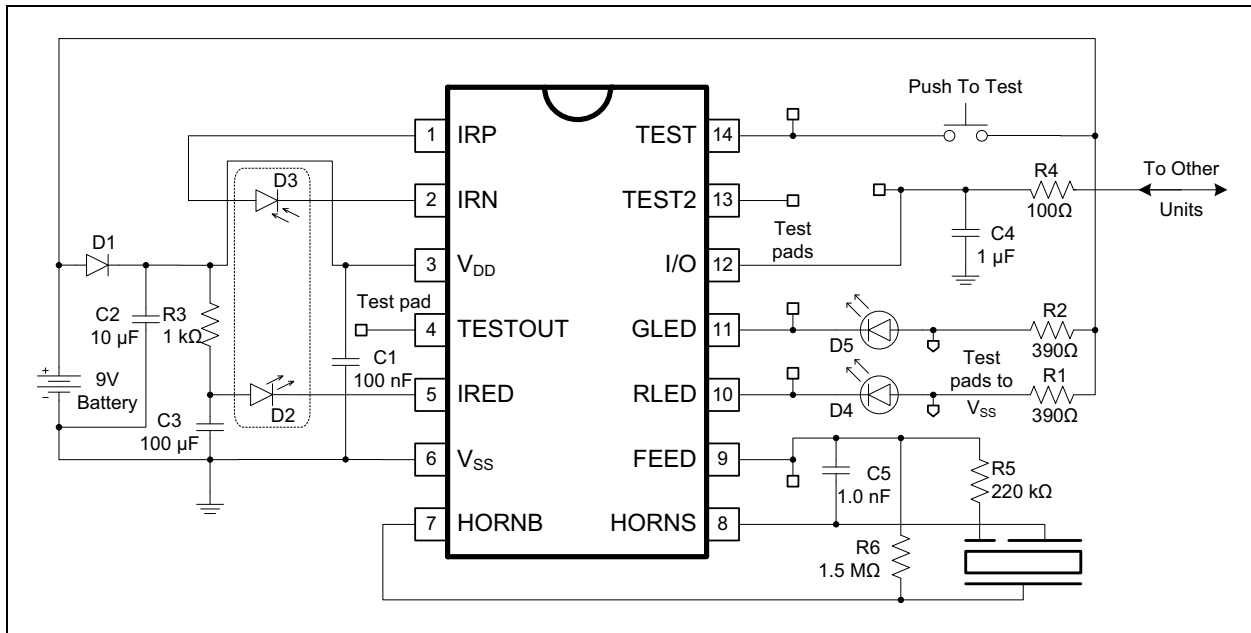

FIGURE 4-1: Nominal Application Circuit for Programming.
Figure 4-1 shows the typical application circuit with special probe pads for test modes. Logic Inputs are FEED, IO, TEST2, and TEST. They all need to have driven inputs on these nodes in the test modes. TESTOUT is a digital output. RLED, and GLED are analog outputs.
1. Power-up with the bias condition shown in Figure 4-1 to enter M0. At power-up, TEST = IO = FEED = TEST2 = V_{SS} .
1. Power up with the bias condition shown in Figure 4-1 to enter M0. At power-up, the 4 input pins TEST = IO = FEED = TEST2 = V_{SS} . TESTOUT is the serial output.
1. Power-up with the bias condition shown in Figure 4-1 to enter M0. At power-up, TEST = IO = FEED = TEST2 = V_{SS}.